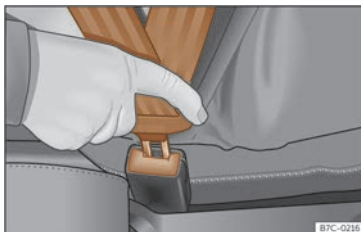

Fig. 19 Insert the latch plate of the seat belt into the buckle.
- Insert the buckle plate in the buckle of the correct seat >>> **Fig. 19**.